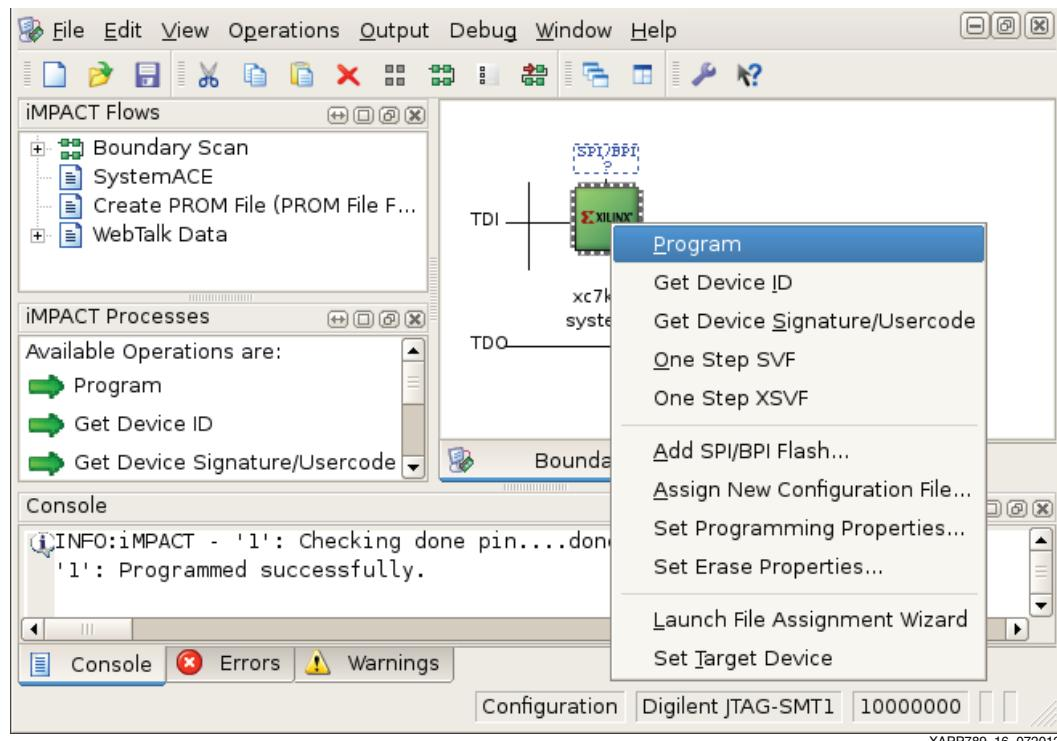

Figure 16: Programming the FPGA
21. Right-click the xc7k325t device and select **Program** (Figure 16).